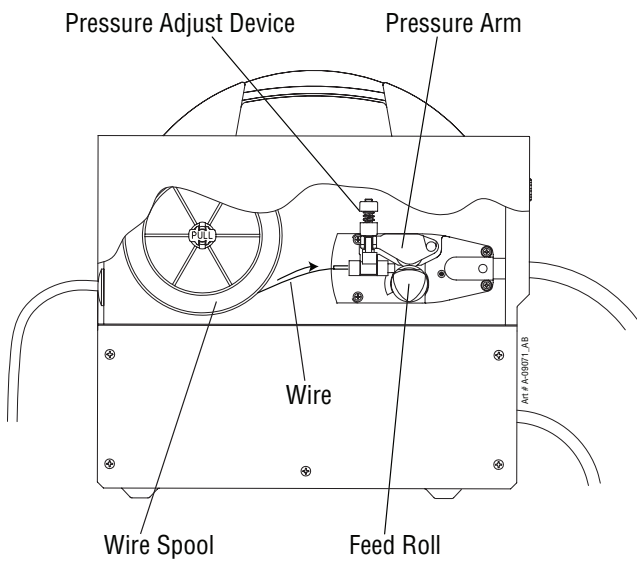

Figure 3-5: Inserting Wire
4. Place the end of the wire into the Inlet Wire Guide, feeding it over the Feedroll. Make certain that the proper groove is being used (Fig. 3-5).
5. Pass the wire into the Gun Liner of the Gun Cable End (Fig. 3-5).
6. Close the Pressure Arm (Fig. 3-5).